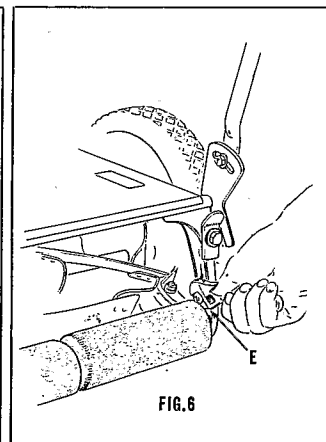

FIG. 6
4. Be sure roller is adjusted to the same height on both sides, roller brackets "B" have gauge marks for this purpose. Then tighten the carriage bolt nuts firmly (Fig. 6 "E"). To determine exact cutting height, simply measure the distance between the ground and the cutting surface on the bed knife.